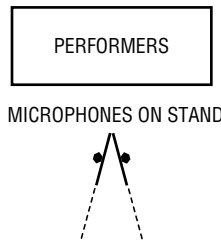

Fig. 8 Stereo #3
- Mount two Sound Grabbers on a mic stand so they are back to back, but angled about 15½ from each other. Position the stand so the mics face to either side of the performers (see Fig. 8).